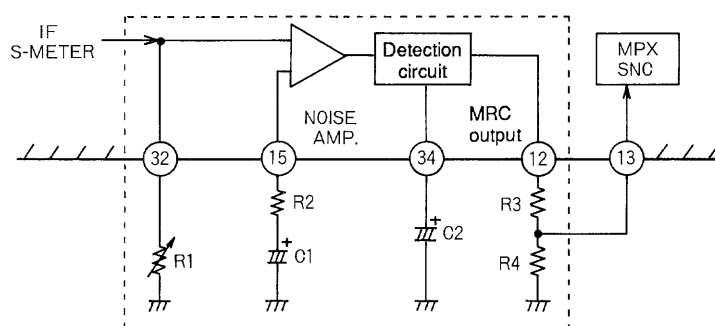
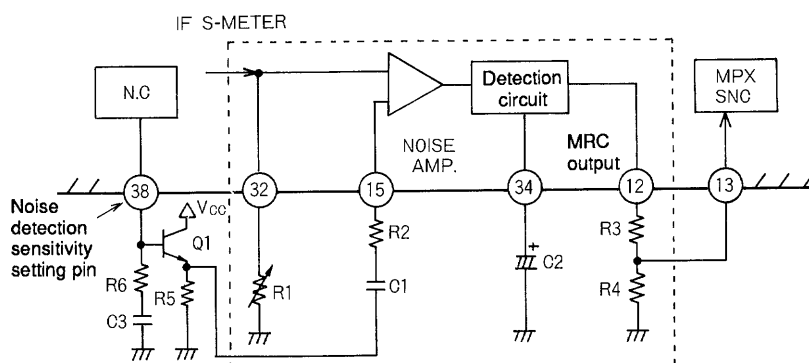
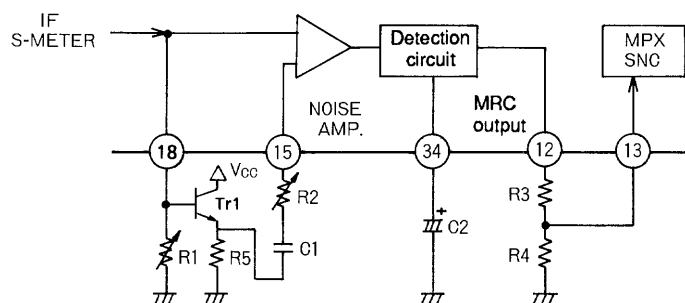
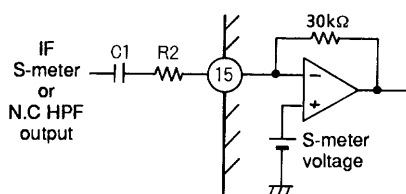

Figure 2 Multipath Circuit
Figure 3 Application Circuit Using NC HPF Noise Detection
Figure 4 Application Circuit Using IF S-Meter High-Area Detection
Figure 6
- The MRC (multipath rejection circuit) supports three techniques as shown in Figures 2, 3 and 4. Figure 2 shows the technique in which the S-meter AC component is detected directly. Figure 3 shows the technique in which the NC HPF noise is detected, and Figure 4 shows the technique in which multipath is detected using the S-meter high area components.
- In the technique of Figure 4, in which multipath is detected using the S-meter high area components, and In the technique of Figure 3, in which the NC HPF noise is detected, the noise amplifier gain is determined by R_2 and the internal $30\text{ k}\Omega$ resistance as shown in Figure 6. The frequency characteristics of the circuit are determined by the capacitor C_1 .